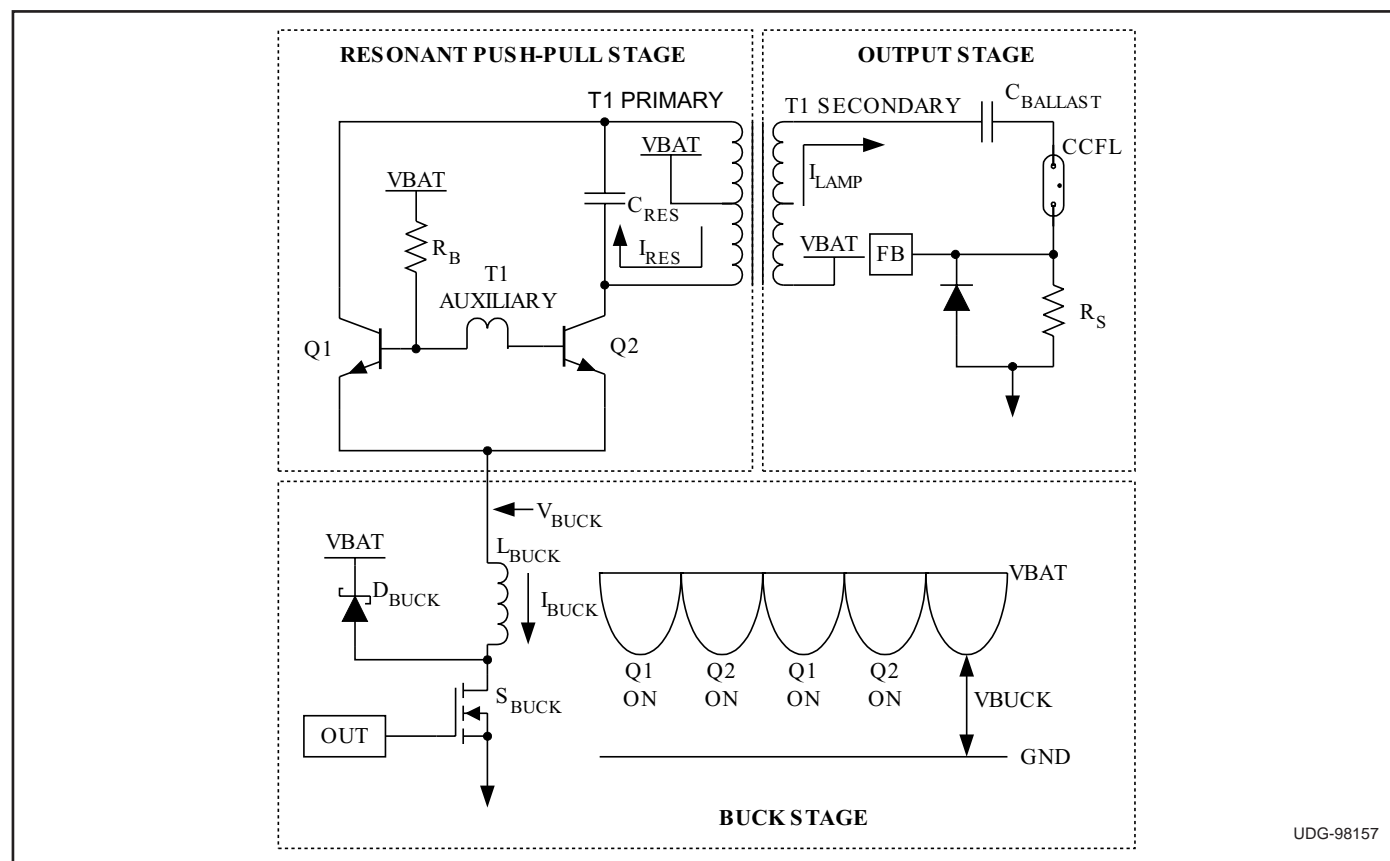

Figure 1. Push-pull, output, and buck stages.
A current fed push-pull topology is used to power the CCFL backlight shown in Fig. 1. This topology accommodates a wide input voltage and dimming range while retaining sinusoidal operation of the lamp. The converter consists of a resonant push-pull stage, a high voltage output stage, and a buck pre-stage used to regulate current in the converter.
Referring to Fig. 1, the push-pull stage consists of  $C_{RES}$ , Q1, Q2,  $R_B$ , and T1's primary and auxiliary windings. The output stage consists of  $C_{BALLAST}$ , the lamp, the current sense resistor  $R_S$ , and T1's secondary. The resonant frequency of the tank is set by the primary inductance of T1, along with the resonant capacitor ( $C_{RES}$ ), and the reflected secondary impedance. The secondary impedance includes the lamp, the ballast capacitor ( $C_{BALLAST}$ ), the distributed winding capacitance of T1, and the stray capacitance which forms between the lamp, lamp wires, and the backlight reflector. Since the lamp impedance is nonlinear with operating current, the tank resonant frequency will vary slightly with load (typically 1.5:1).
frequencies, the UCC3972/3 synchronizes the buck frequency to the frequency of the push-pull stage. The traditional buck topology is inverted to take advantage of the lower  $R_{DS(on)}$  characteristics of an N-Channel MOSFET switch ( $S_{BUCK}$ ). With a sinusoidal voltage across the tank, the resulting output of the buck stage ( $V_{BUCK}$ ) becomes a full-wave rectified voltage referenced to VBAT as shown in Fig. 1.
Referring back to Fig. 1, when OUT turns  $S_{BUCK}$  on, the BUCK node voltage  $V_{BUCK}$  is placed across the inductor. This voltage is typically positive and current ramps up in the inductor (it is possible for the BUCK node voltage to go negative if VBAT is low and the lamp current is near maximum). When  $S_{BUCK}$  is turned off,  $V_{BAT}-V_{BUCK}+V_{D_{BUCK}}$  is placed across the inductor with opposite polarity. As with any buck converter, the volt-seconds across the inductor must be reversed on each switching cycle to maintain constant current. The duty cycle (D) relationship is complicated somewhat by the fact the output voltage is changing within a switching cycle. The equations below determine the relationship between on and off times in continuous conduction mode where T is the switching period,  $D = t_{ON}/T$ , and  $t_{OFF} = T - t_{ON}$ .